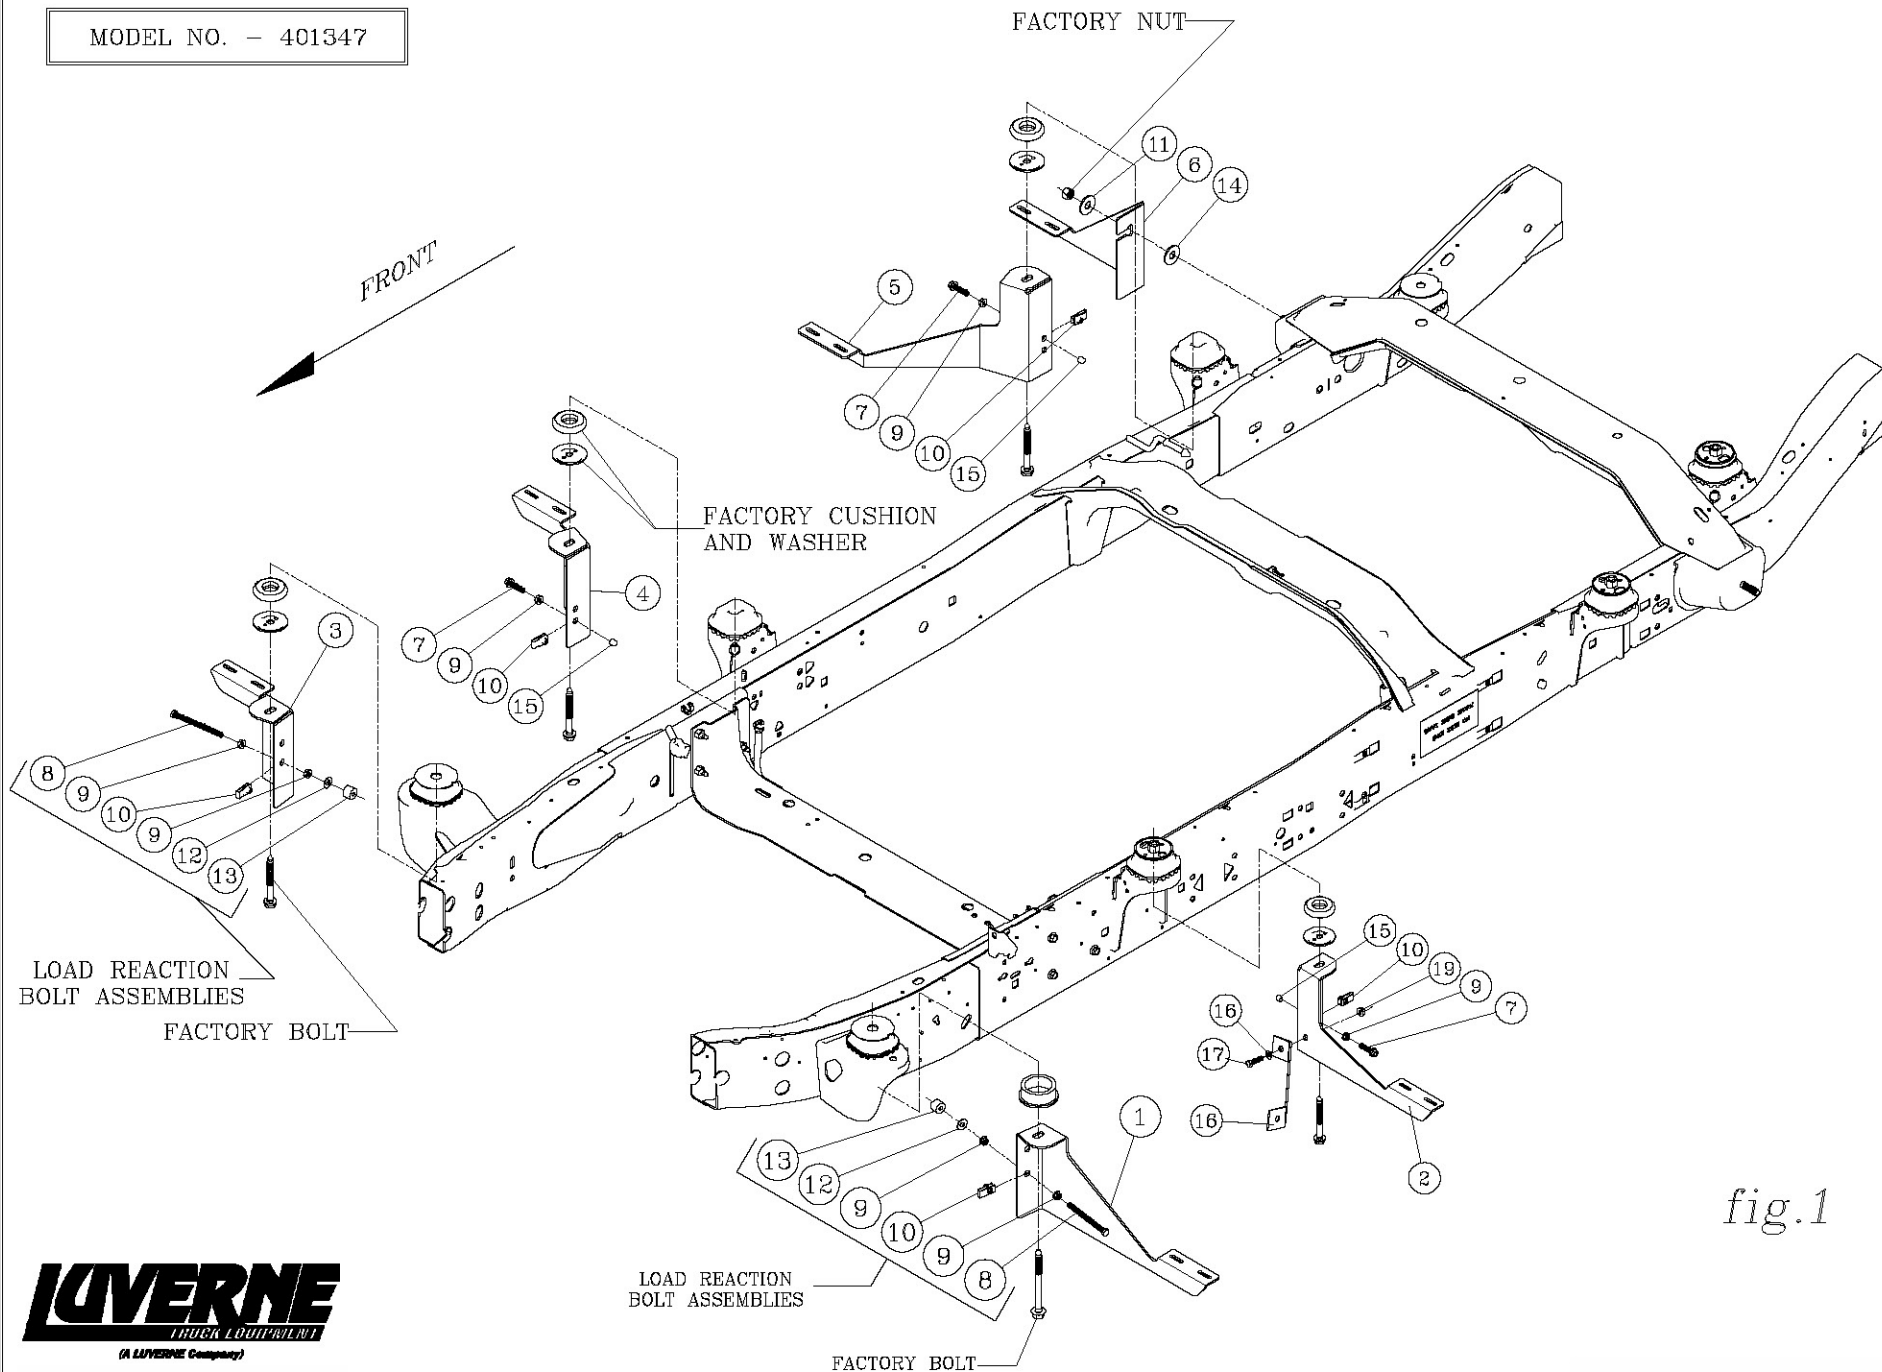

fig.1
4. INSTALL A 3/8"-16 SERRATED FLANGE NUT (ITEM #9) ON THE 3/8"-16 X 5" HEX BOLT (ITEM #8) WITH THE FLANGE FACING TOWARD THE END OF THE BOLT AND TURN ON JUST SHORT OF THE HEAD. SCREW THE BOLT INTO THE U-NUT AND WHEN IT COMES THROUGH THE OTHER SIDE START ANOTHER FLANGE NUT FACING THE SAME DIRECTION AS THE FIRST NUT. TURN THE NUT ON UNTIL THERE IS 11/16" PROTRUDING FROM THE FACE OF THE NUT, INSTALL A 3/8" FLAT WASHER (ITEM #12) AND THE .354 X 1.00 X .748 RUBBER WASHER (ITEM #13) INTO THE END OF THE BOLT. ADJUST THE LOAD REACTION BOLT ASSEMBLY SO THAT THE RUBBER CUSHION IS SNUG AGAINST THE FRAME AND TIGHTEN DOWN THE OUTSIDE FLANGE NUT. **(LOAD REACTION BOLT ASSEMBLY)** AS SHOWN IN *fig. 1*.
8. INSTALL A 3/8"-16 SERRATED FLANGE NUT (ITEM #9) ON THE 3/8"-16 X 1-3/4" HEX BOLT (ITEM #7) WITH THE FLANGE FACING TOWARD THE END OF THE BOLT AND TURN ON JUST SHORT OF THE HEAD. SCREW THE BOLT INTO THE U-NUT AND WHEN IT COMES THROUGH THE OTHER SIDE ADJUST THE LOAD REACTION BOLT ASSEMBLY SO THAT THE RUBBER PLUG IS SNUG AGAINST THE FRAME AND TIGHTEN DOWN THE OUTSIDE FLANGE NUT. **(LOAD REACTION BOLT ASSEMBLY)** AS SHOWN IN *fig. 1*.